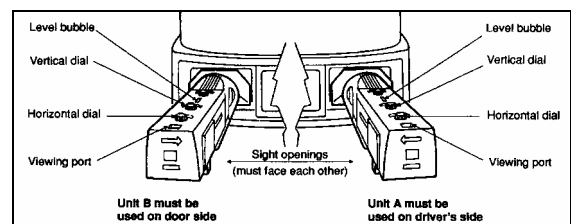

FIGURE 42: HEADLIGHT ALIGNER
2. Install aligners on headlights (unit A on driver's side and unit B on other side with the sight openings facing each other) by pushing the handle forward to secure rubber suction disc. Pull handle until it locks. Refer to figure 42.